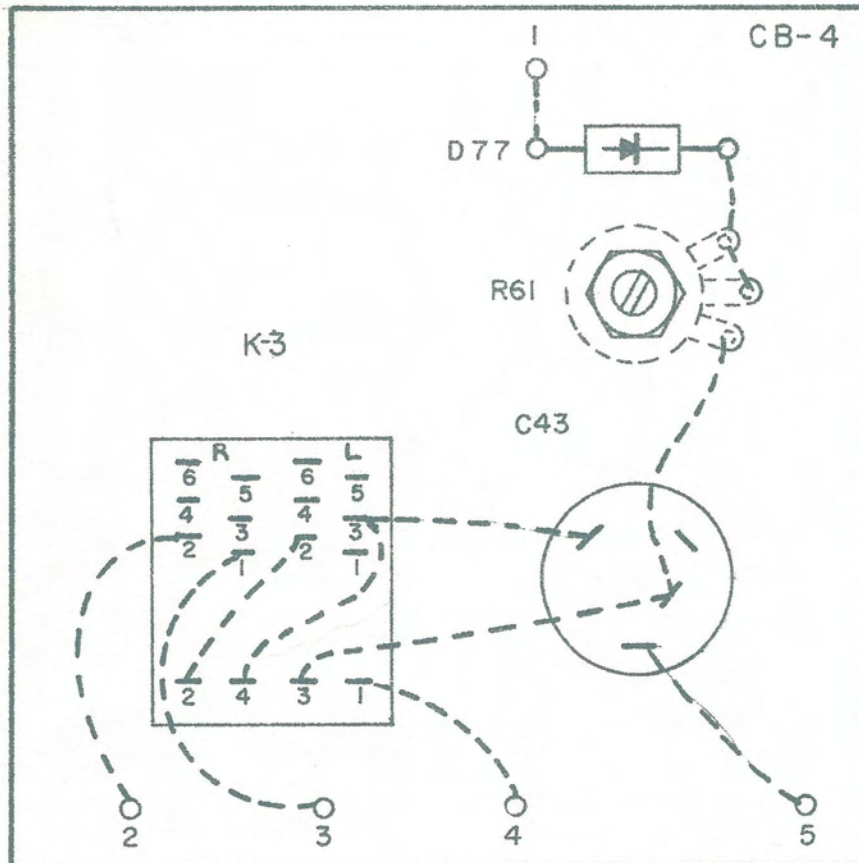

FIGURE CB-4
Use previous procedure and refer to Figure CB-4.
- (✓) 2. Mount capacitor C-43 (150 mfd, 150 v) and orient as shown on Figure CB-4.
- (✓) 7. Jumper the lower terminal of R-61 through the plus terminal of C-43 to pin 3 of the relay. (insulate). Note that the relay carries designations of L 1-6, R 1-6 and 1-4. Refer to Figure CB-4 when making these connections, keeping in mind that the drawing is a top view and dotted lines indicate wiring on the back of the component board.